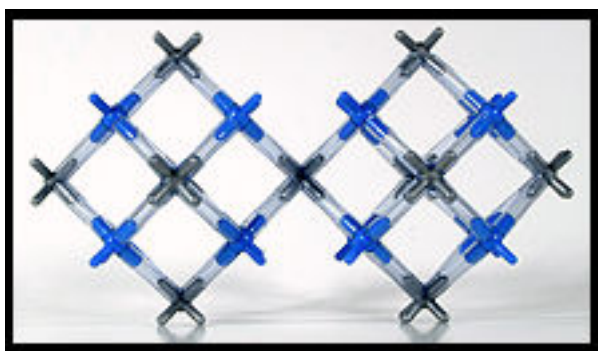

Fig. 7 Calcium ion bridging two identical models.
5. Using a single calcium ion as a bridge, attach the duplicated models to each other. See Fig. 7.